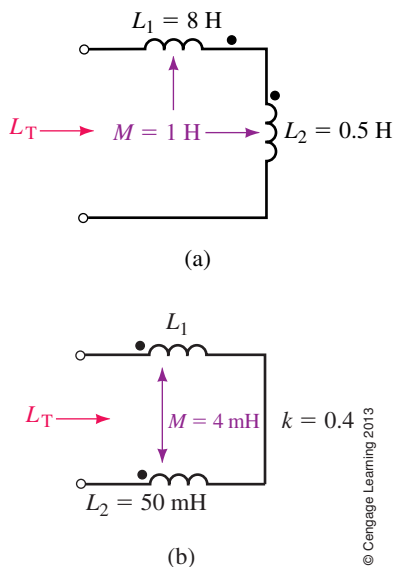

FIGURE 23-79
- For each circuit of Figure 23-79, determine L_T .